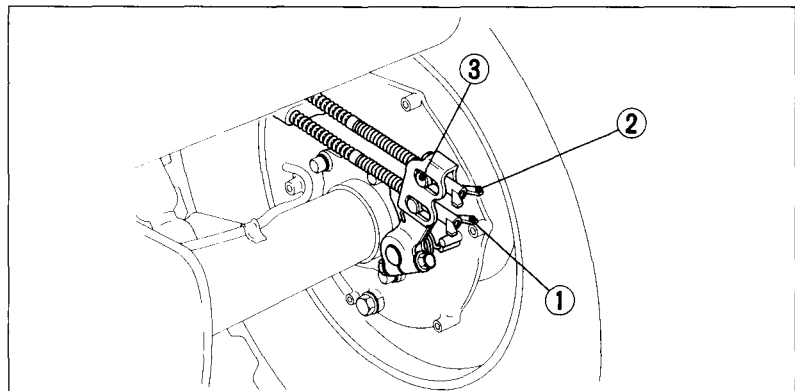

Fig. 4-28
To adjust the free play, turn the brake pedal adjusting nut (Fig. 4-28), located on the brake operating rod at the rear of the frame.
To adjust the free play, turn the brake lever adjusting nut (Fig. 4-28), located on the brake operating rod at the rear of the frame. Make sure the cut-out on the adjusting nut is properly seated on the brake arm pin (3).